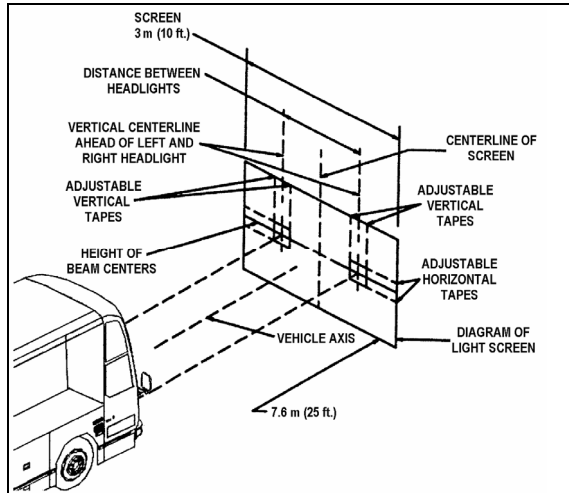

FIGURE 29: ALIGNMENT OF HEADLIGHT AIMING SCREEN 06502
3. The headlight centerlines shall be spaced either side of the fixed centerline on the screen by  $\frac{1}{2}$  the lateral distance between the light source centers of the pertinent headlights. The horizontal tapes should be located on the screen at the upper and lower limits called for in the specification with reference to the height of beam centers and the plane on which the vehicle rests, not the floor on which the screen rests (Fig. 29).